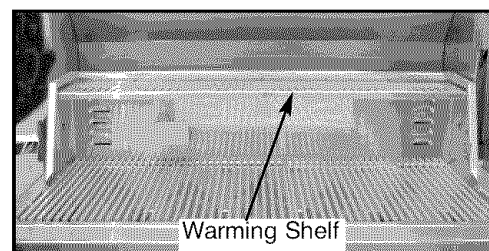

Fig. 12
4. Place warming shelf on support brackets by setting it flat across brackets allowing the two holes to line up with the stops on each bracket. (See Fig. 12)